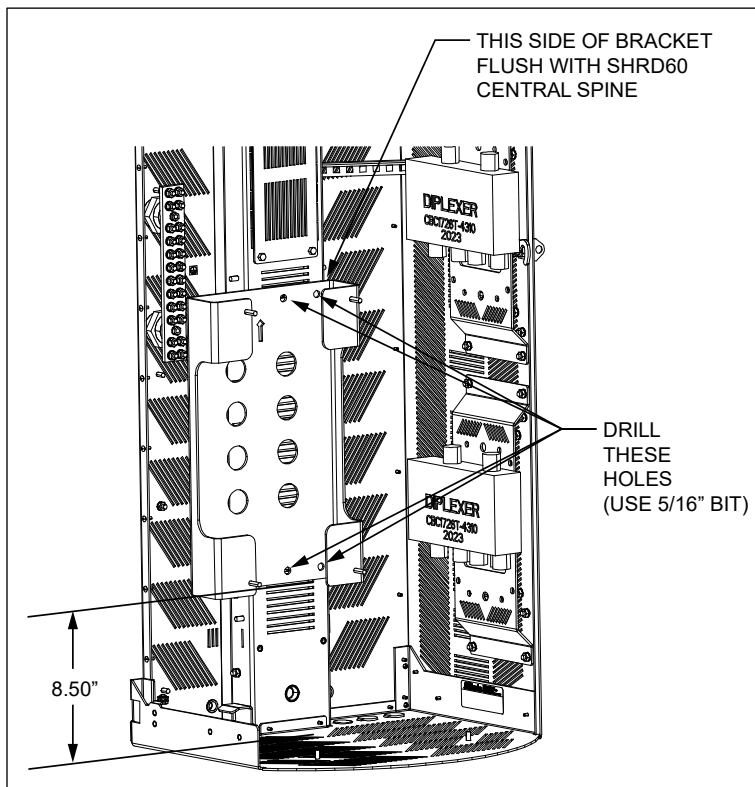

Figure 4 Mount Diplexers
2. Mark the locations of the four holes indicated in Figure 4.